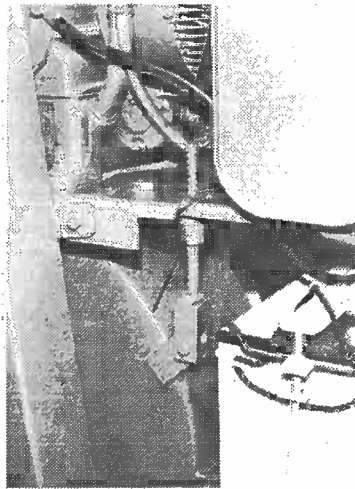

FIGURE 17
2. Loosen belt tensioner until bottomed out. See Figure 17.